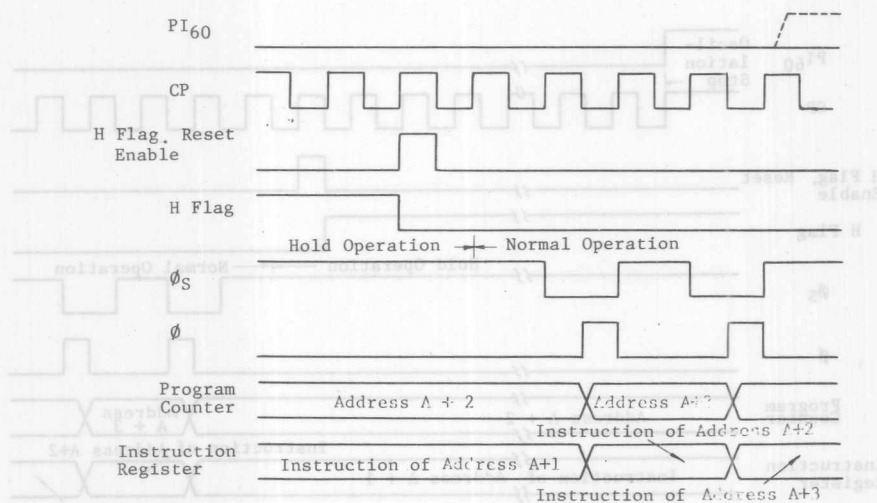

Fig. 2 Restart Timing from Hold Operation (Oscillation Continuity)
Since the counter buffer is the output of the divider (2) which is counting the internal basic clock (cp), TCP4620BP is restarted at regular intervals if oscillation is not suspended during hold operation. (Refer to Fig. 2.) This is the same operation as the hold operation of TCP4620AP/TCP4630AP. (However, there is a difference in nothing but restart condition by mask option between them.)